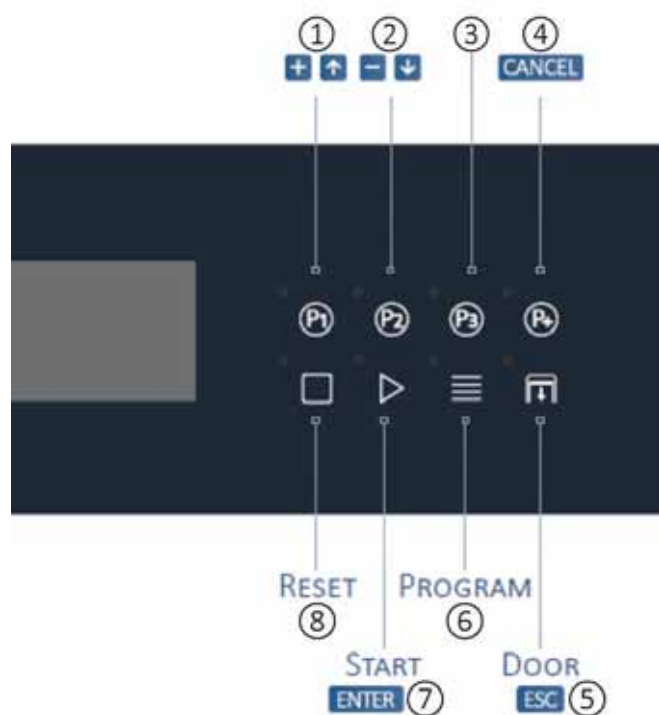

Fig. 13
- 4) With the door open, press and hold key P1 (1 Fig. 13) to refill DOS1 for the detergent; key P2 (2 Fig. 13) to refill DOS2 for the descale; key P3 (3 Fig. 13) to refill DOS3 for the lubricant/rinse aid liquid; key P+ (4 Fig. 13) to refill DOS4 for additive liquid.
- 6) With the door open, press and hold key P1 (1 Fig. 13) to refill DOS1 for the detergent; key P2 (2 Fig. 13) to refill DOS2 for the neutralizer; key P3 (3 Fig. 13) to refill DOS3 for the lubricant/rinse aid liquid; key P+ (4 Fig. 13) to refill DOS4 for additive liquid.
- 1) Open the door using the DOOR key on the touch screen (4 Fig. 13), if the door is already open, leave it opened;
- 3) Press and hold the button corresponding to the dosing pump you wish to activate to manually load the hydraulic system: key P1 (1 Fig. 13) on the touch screen for pump DOS1; key P2 (2 Fig. 13) on the touch screen for pump DOS2; key P3 (3 Fig. 13) on the touch screen for pump DOS3; key P+ (4 Fig. 13) on the touch screen for pump DOS4.